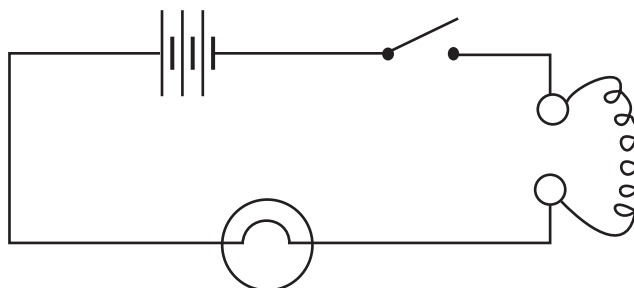

Figure 10-2
3. Now put your universal clips in to a circuit as shown in figure 10-2.
6. Put your copper wire across the clip as shown in figure 10-2 and note the brightness of the bulb.